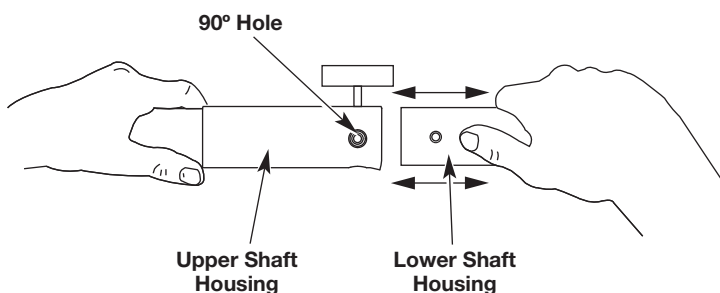

Fig. 3
2. While firmly holding the attachment, push it straight into the EZ-Link™ coupler until the release button snaps firmly into the 90° hole (Fig. 3).
3. While firmly holding the upper shaft housing, pull the attachment straight out of the EZ-Link™ coupler (Fig. 3).